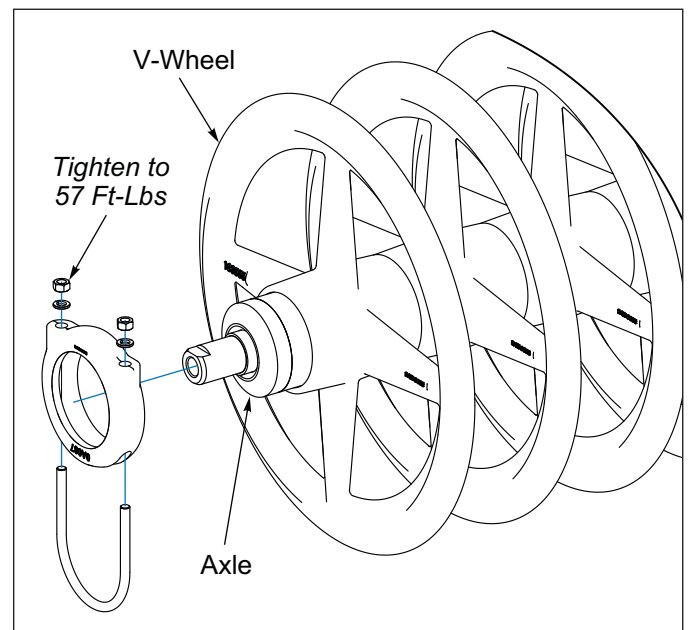

Figure 4-8: V-Wheel Clamp Tightening
4. Tighten the U-Bolt evenly to 57 Ft-Lbs. **See Figure 4-8.**